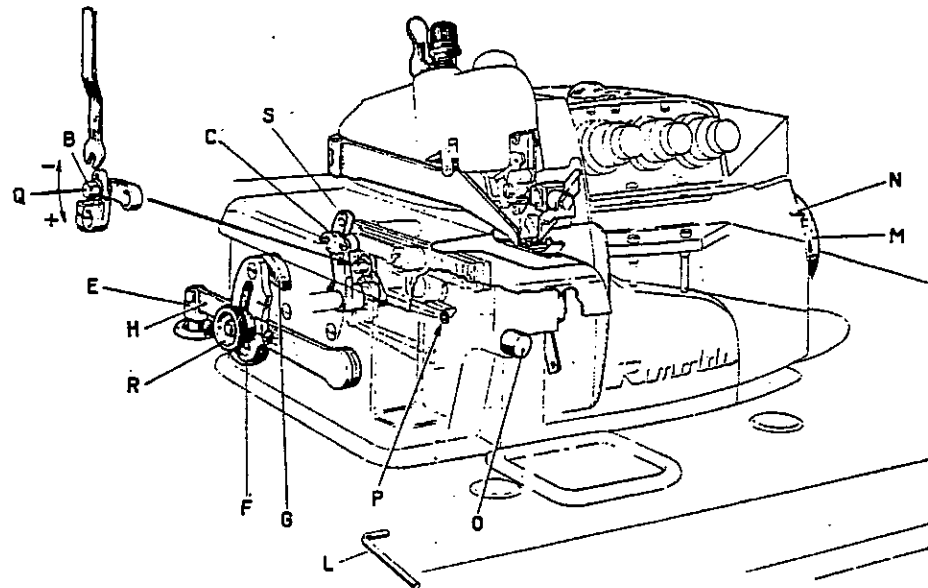

fig. 13
9. Feed mechanism (fig. 13).
e) Stitch length adjustment (fig. 13)